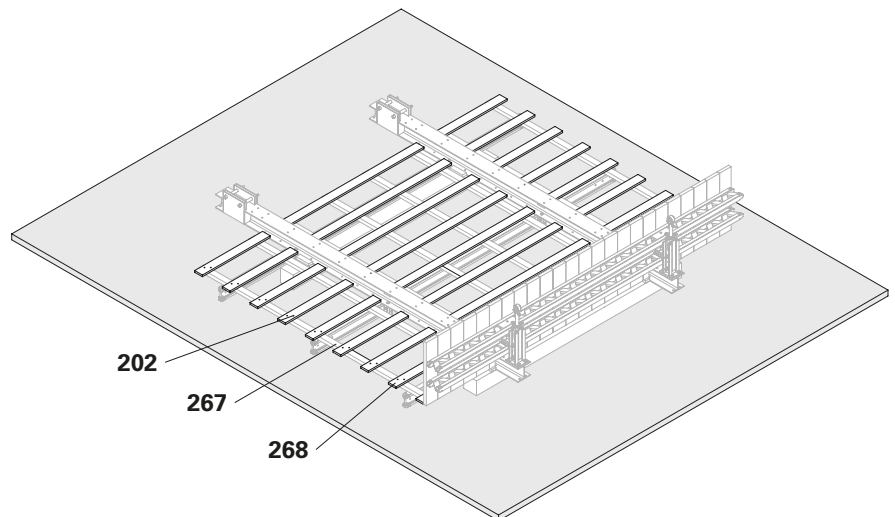

Fig. B9.12
2. Screw the ladder cage (**268**) onto the counter-batten (**267**) using Torx 6 x 80 (**202**). (Fig. B9.12)